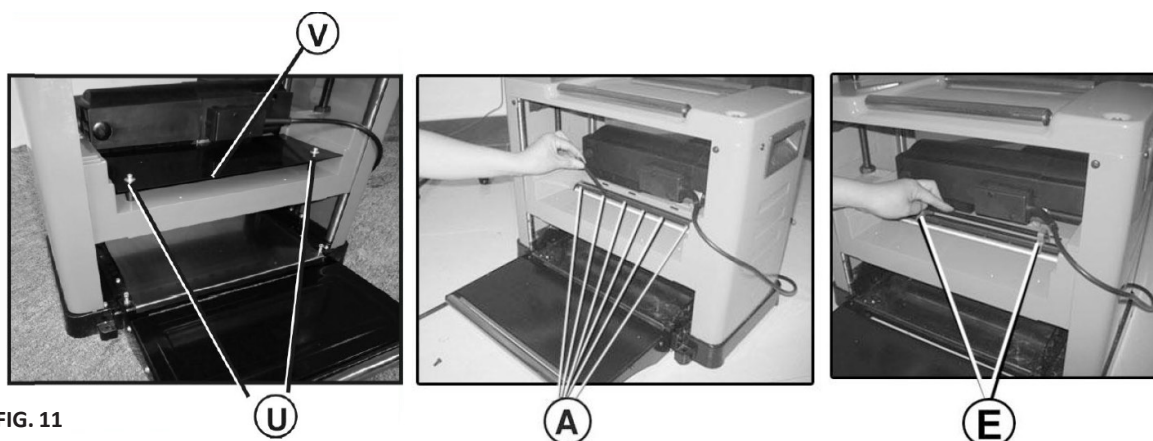

FIG. 11
**Replacing and adjusting the blades (Fig. 11 - 13)**
1. Use the Allen wrench (M) to remove the dust cover (V) by loosening the screws (U) as shown in Figure 11.
2. Use the spanner (N) to loosen the blade locking plate (B) and the blade (C) by turning the outer hexagonal bolt (A) clockwise. The blades have a spring-loaded mounting system (D) and can be removed when the blade locking plate is removed.